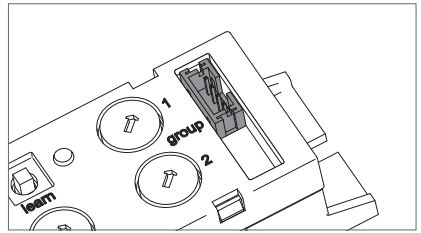

Fig. 7: Module control interface.
- ▶ Connect one end of the connecting line to the "module control" interface on the module, see Fig. 7